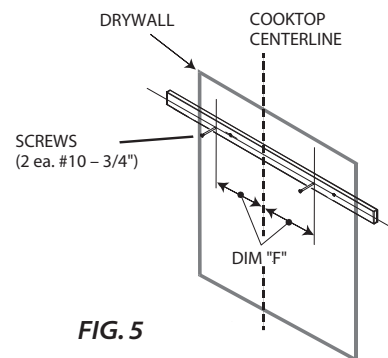

FIG. 5
8. On the wood bracket, mark the locations used to hang the hood according to Figure 5 and its Table.